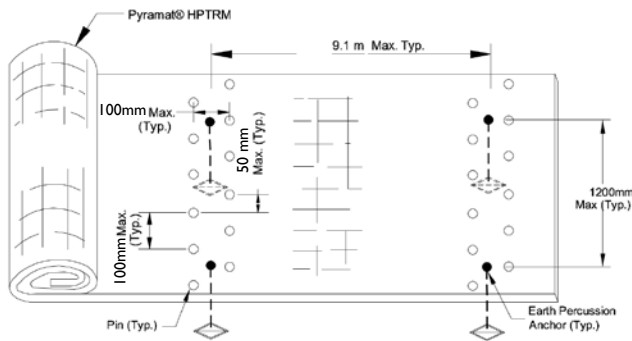

FIGURE 7: SIMULATED CHECK SLOT DETAIL
- For channel reaches longer than 13.7m, install simulated check slots per Figure 7. This method included placing two staggered rows of pins 100mm apart on 100mm centers and one row of earth percussion anchors on 1.2m centers at 9.1m intervals (see Figure 7) or across the midpoint of the channel for channel lengths less than 18.2m.